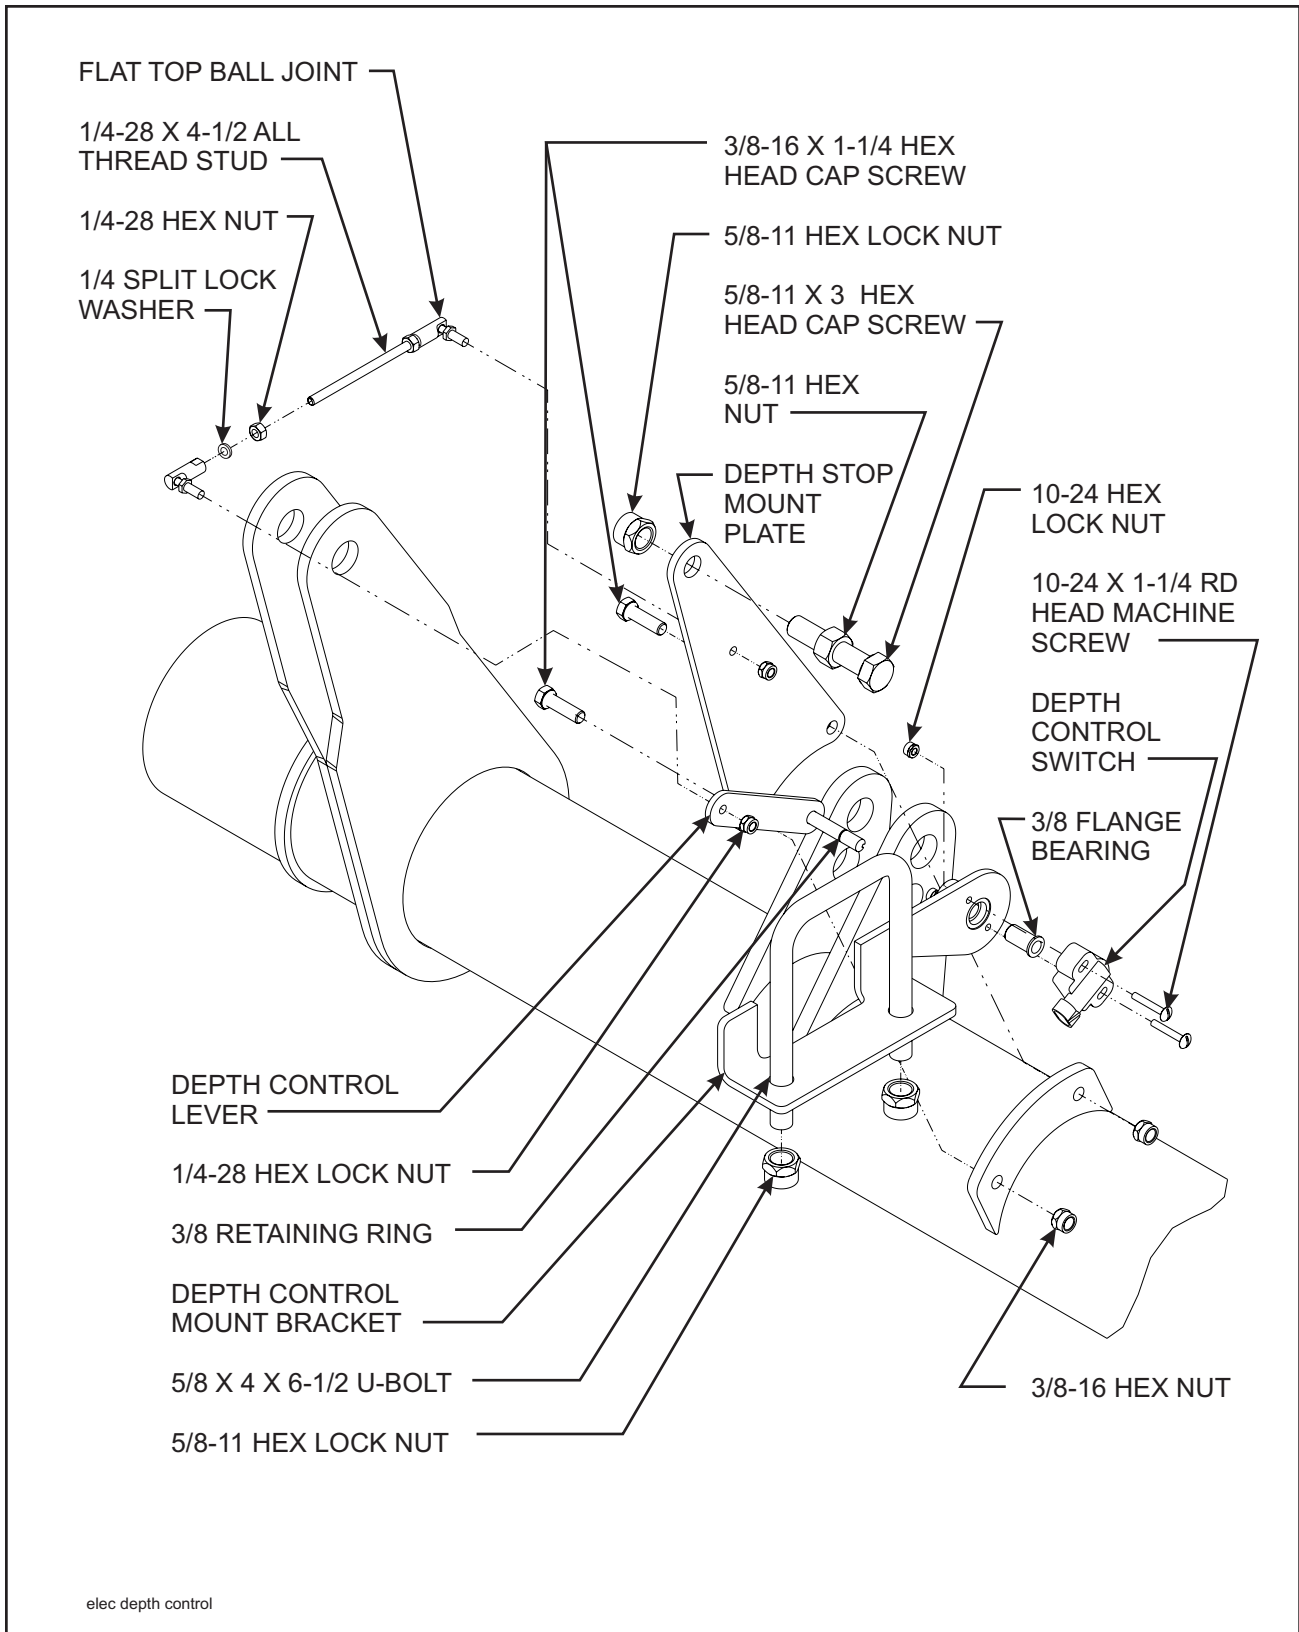

Figure 3-6 Electronic Depth Stop Installation
- 3-6.1** Attach the electronic depth control mounting bracket to the middle cross bar of the center frame using a 5/8 x 4 x 6-1/2 u-bolt and hex lock nuts (**See Figure 3-6**). **See Figures 2-1 - 2-4** for proper placement. The depth control lever should line-up with the depth stop mounting plate on the center lift.